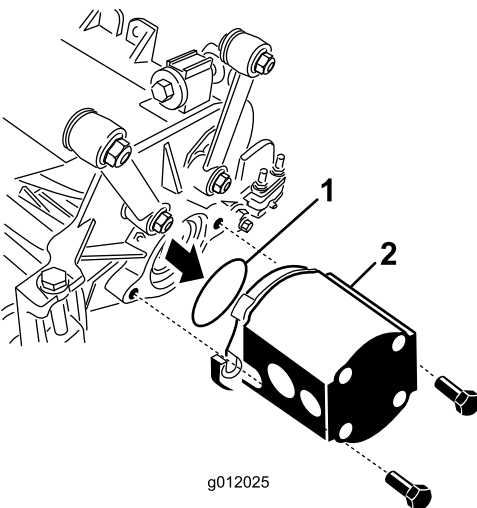

Figure 24
5. Insert the O-ring (supplied with the cutting unit) on the flange of the drive motor (Figure 24).
6. Mount the motor to the drive end of the cutting unit, and secure it with two capscrews provided with cutting unit (Figure 24).